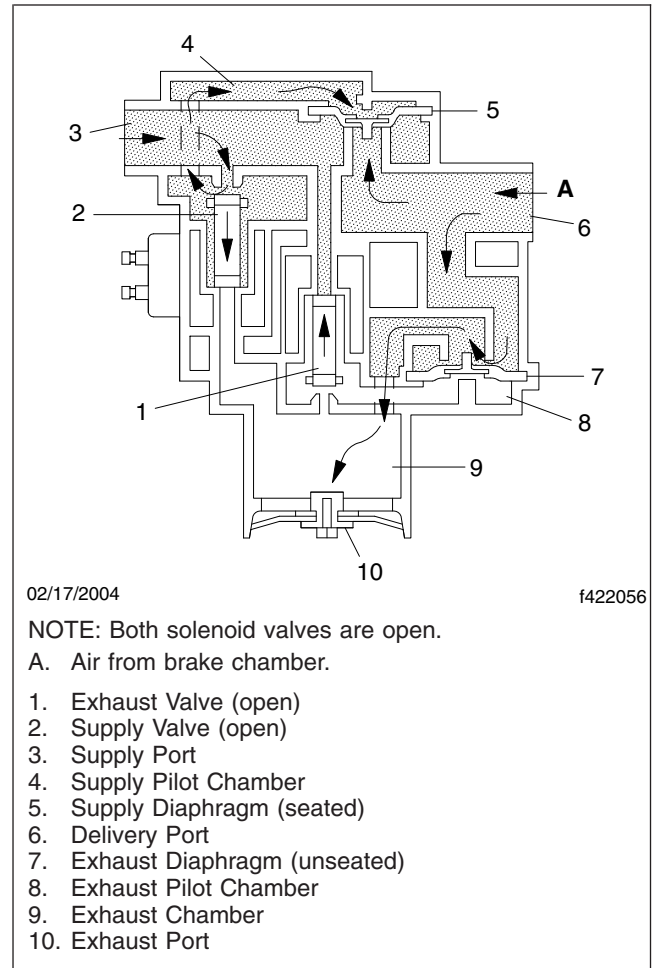

Fig. 6, Modulator Valve, Brake Release (exhaust)
- When a wheel is going to lock, the ECU opens (energizes) both solenoid valves in the ABS modulator valve. See Fig. 6.